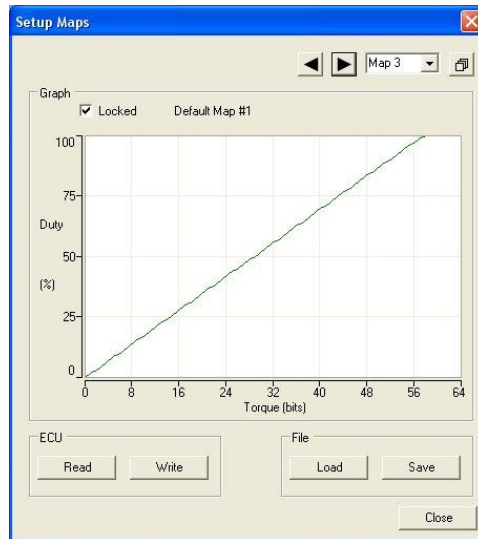

Figure 10 - Setup Maps Dialog (One Map)
4. Use the arrow buttons or the drop-down box in the top right-hand corner of the dialog to select the map to be edited (Figure 10).